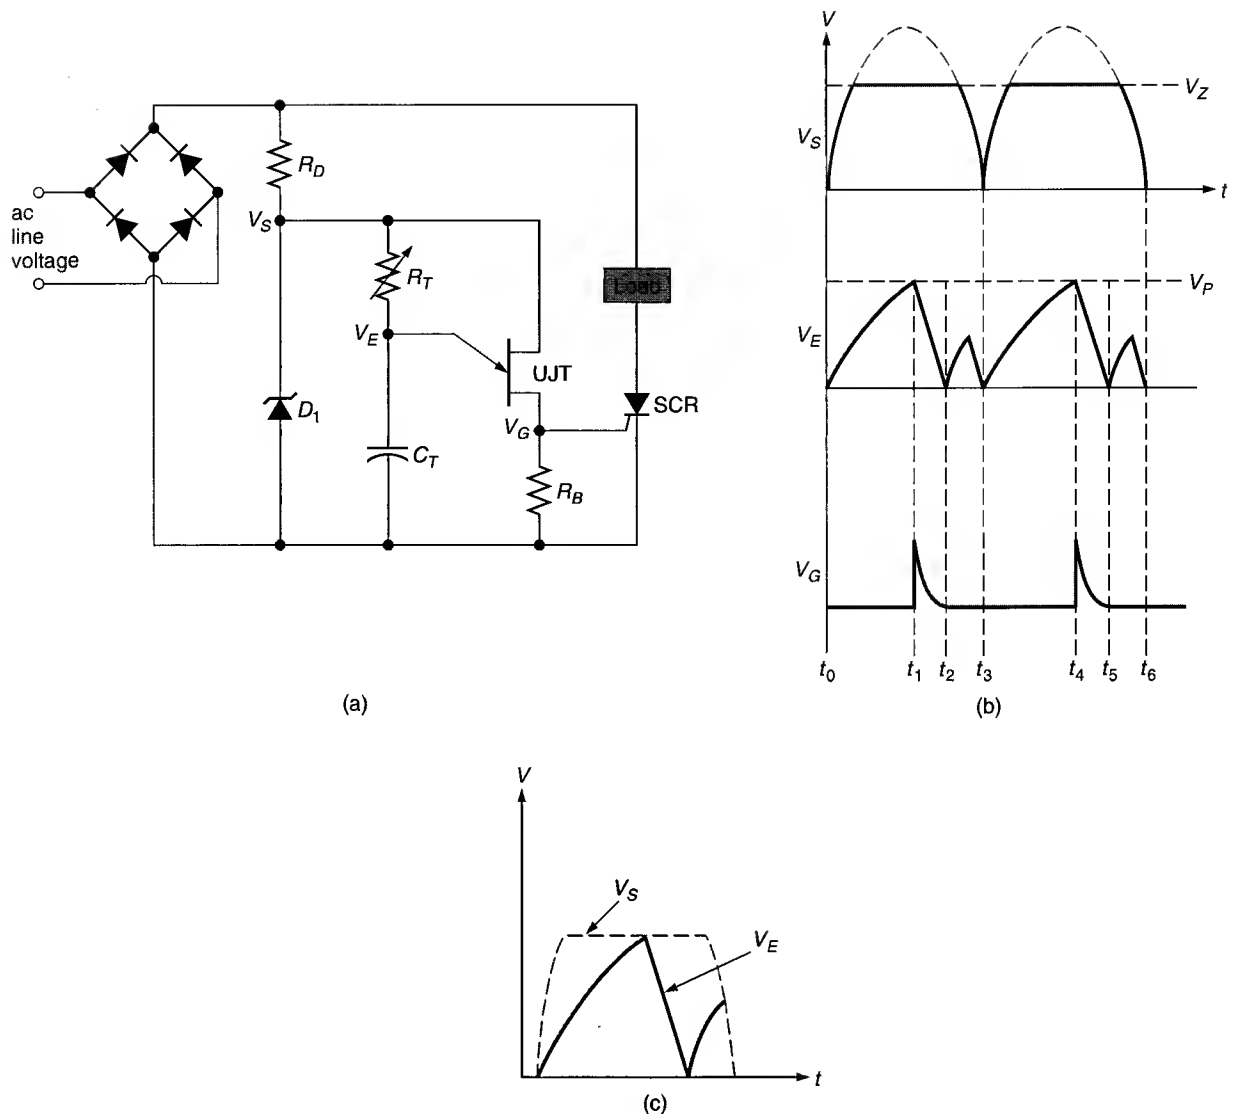

FIGURE 20.35 A UJT relaxation oscillator.
UJTs are used almost exclusively as *thyristor-triggering devices*. An example of this application can be seen in Figure 20.35. The circuit shown in Figure 20.35a is called a *relaxation oscillator*. A **relaxation oscillator** is a circuit that uses the charge/discharge characteristics of a capacitor or inductor to produce a pulse output. This pulse output is normally used as the triggering signal for a thyristor, such as an SCR or a triac. In a practical relaxation oscillator, the dc supply voltage (V_S) is derived from the ac line voltage to control the timing of the oscillator.
The circuit shown in Figure 20.36b demonstrates the use of the PUT in a relaxation oscillator. R_1 and R_2 are used to establish the value of V_{GK} for the device. C_T is charged through R_T until V_{AK} reaches the value of V_{GK} . At that point, the PUT is triggered, allowing conduction through R_3 . The conduction through R_3 produces a voltage pulse at the gate of the SCR that is similar to the V_G waveform in Figure 20.35.
9. Describe the operation of the *UJT relaxation oscillator* in Figure 20.35.